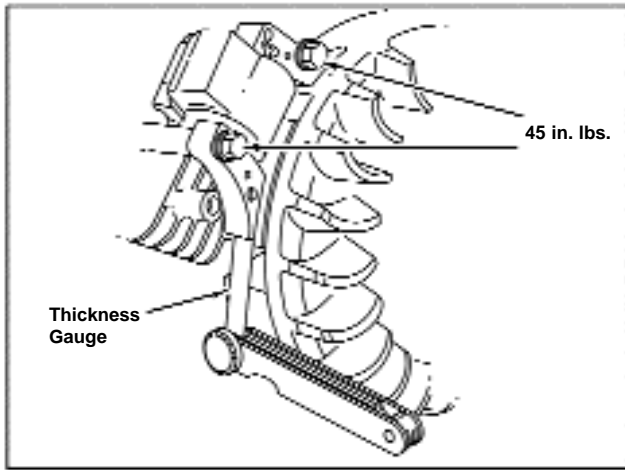

Figure 74 - Magnet Under Armature
2. Place thickness gauge, magnet and armature laminations, Figure 74.